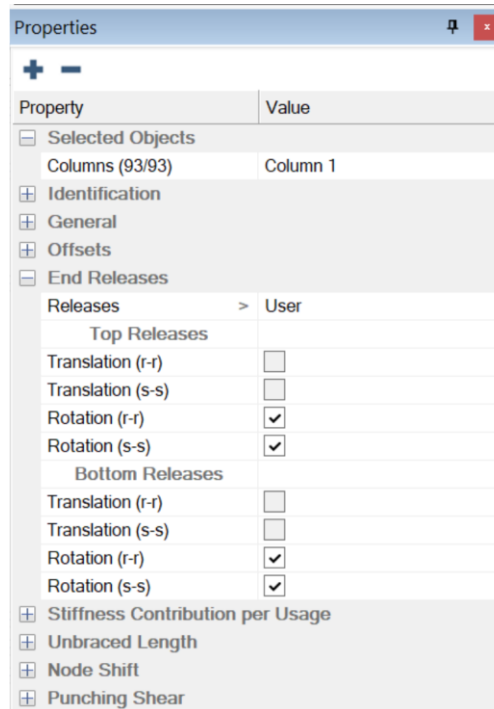

FIGURE 12-8
- Select the rotation to be released at the top and bottom of the columns, as shown in **FIGURE 12-8**.